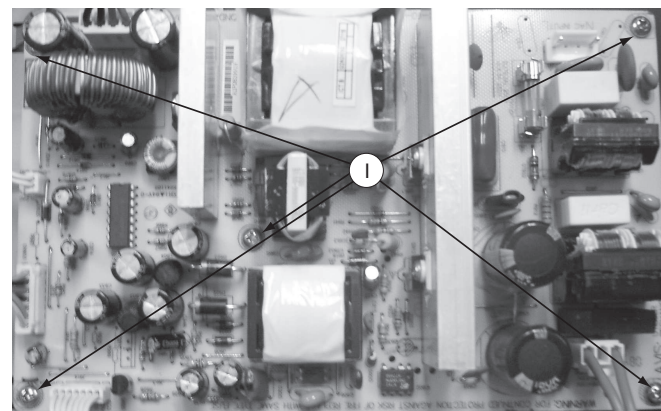

Figure 12
- 1) Loosen 5 screws "I" on the top of Power Board as shown in figure 12.